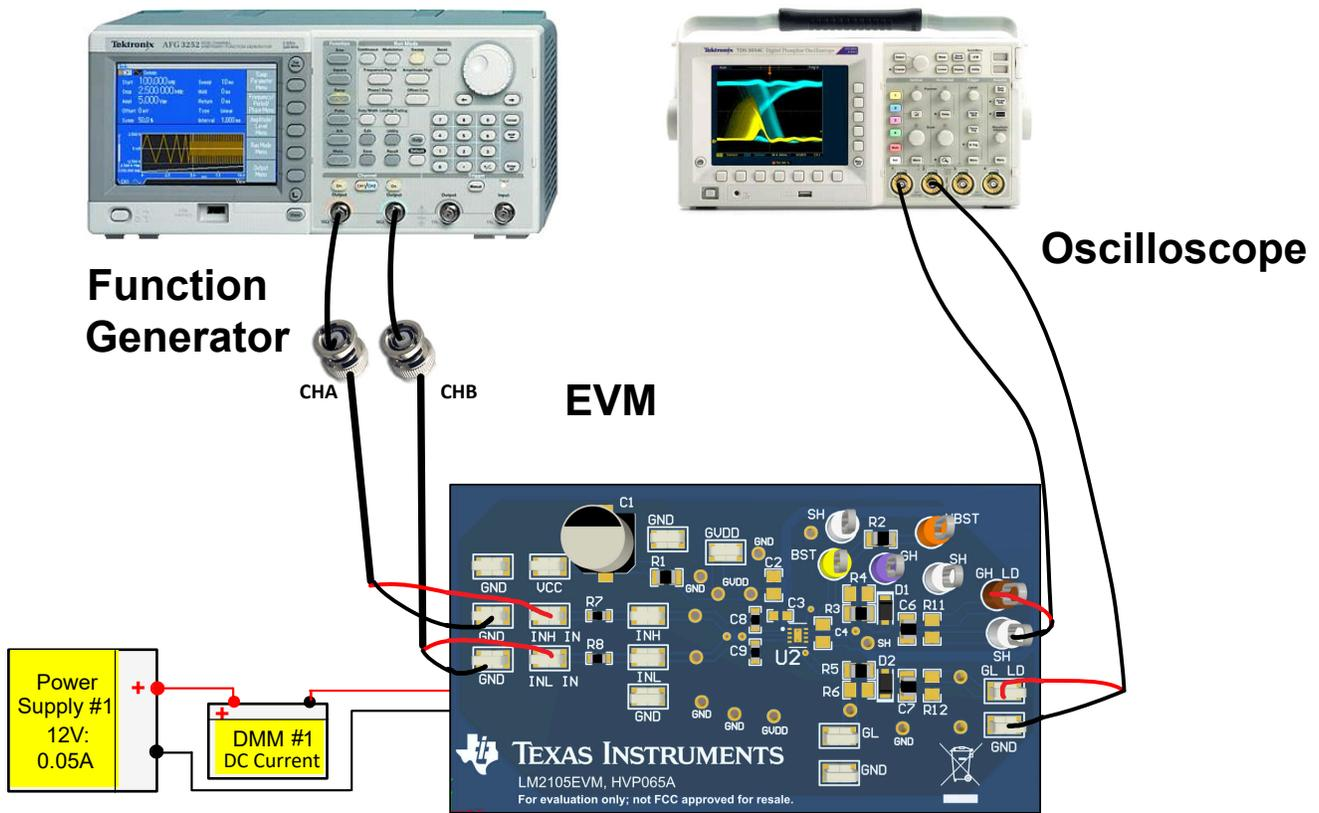

Figure 4-1. Bench Setup Diagram and Configuration
This procedure details how to configure the LM2105 evaluation board. Within this test procedure, the following naming conventions are applied. See the LM2105 Bench Setup Diagram and Configuration, Figure 4-1, for details.
Use the following connection procedure, refer to Figure 4-1.
1. Before beginning the power up test procedure, verify the connections with Figure 4-1.